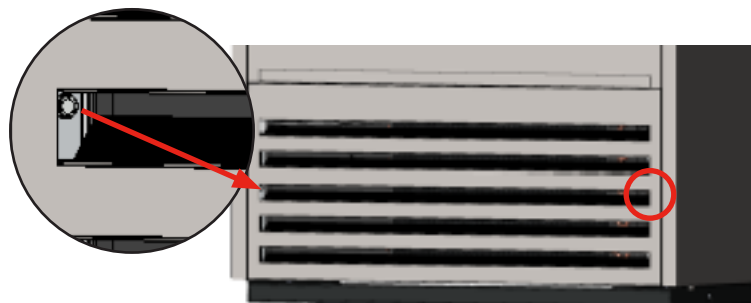

Fig. 3. Remove the screws. Pull the front grill to release it from the magnetic brackets.
**NOTE:** Some models may require removing the front and/or rear grill to access the shipping bolts. See figs. 3 and 4. Remove the grills with a 1/4" socket wrench, if so equipped.